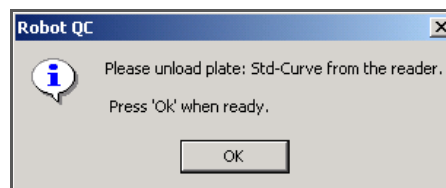

Figure 87 Unload Std Curve Plate Prompt
- If you want to use this data, click **Yes**. When prompted, remove the Standard Curve plate from the reader (Figure 87). Otherwise, if you are performing the MCA Robot QC, save the standard plate for this analysis.